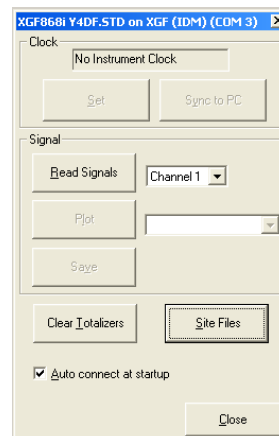

Figure 27: Properties window
3. The *properties* window appears similar to Figure 27 below. To clear the XGF868i totalizers, click on the [clear totalizers] button. The XGF868i totalizers are reset to 0.